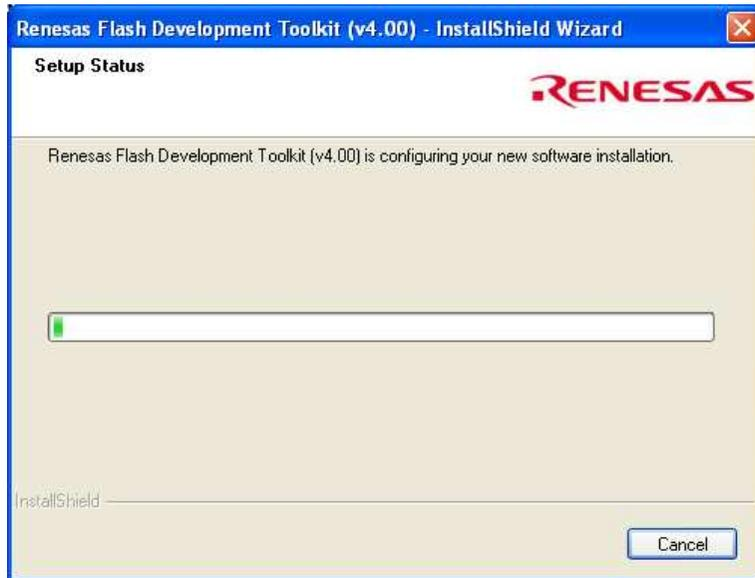

Figure 63:
11. The following screen will then appear with the Setup Status (Figure 63).